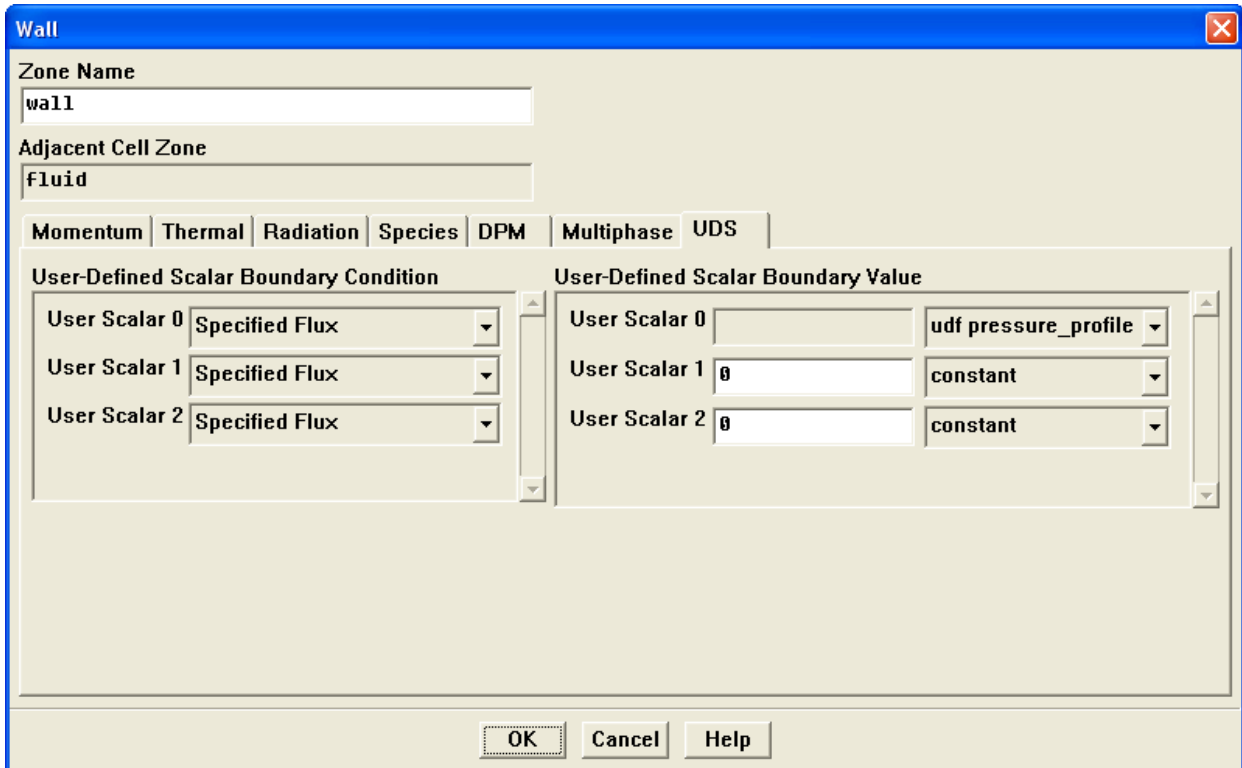

Figure 6.2.16: The Wall Panel with Inputs for User-Defined Scalars
- If you are using your UDF to define a specific value or flux for a scalar equation, you will need to first select the UDS tab in the wall, inflow, or outflow boundary panel (Figure 6.2.16).